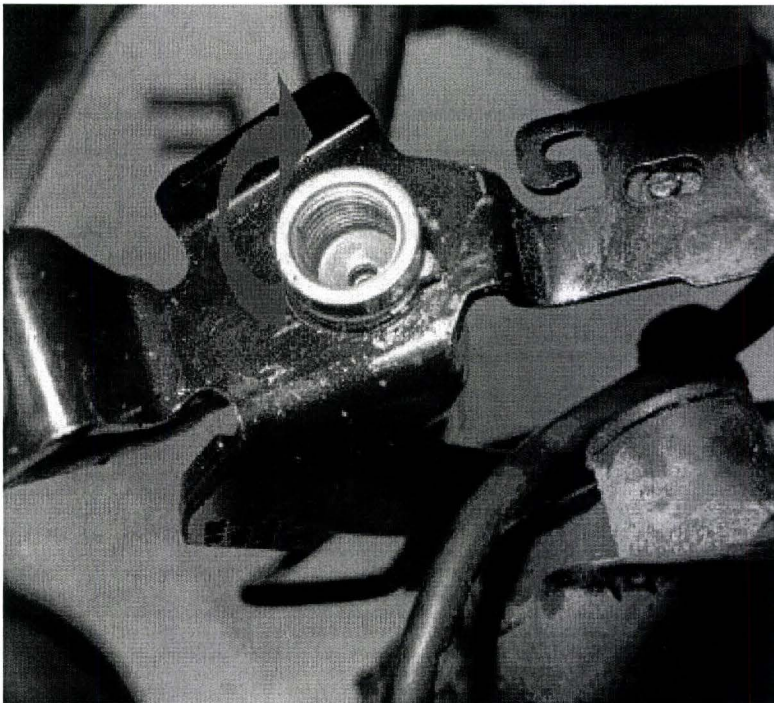

Figure 5
- Offer the pipe into the bracket, IMPORTANT: Should the pipe require turning to allow the pipe to locate into the bracket turn the pipe clockwise as this will minimise the twist of the hose as shown in Figure 5 until the two tangs locate within the bracket